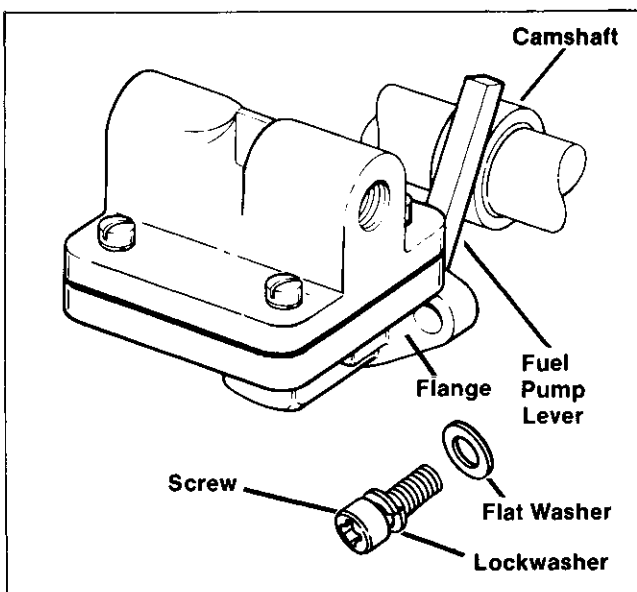

Figure 8-30. Installing Fuel Pump
**CAUTION:** Never install fuel pump on crankcase before the case halves are assembled, as fuel pump lever could be incorrectly positioned below the cam. *Correct lever position is above the cam.* Fuel pump damage and subsequent severe engine damage could result if lever is positioned below the camshaft. (See Figure 8-30.)